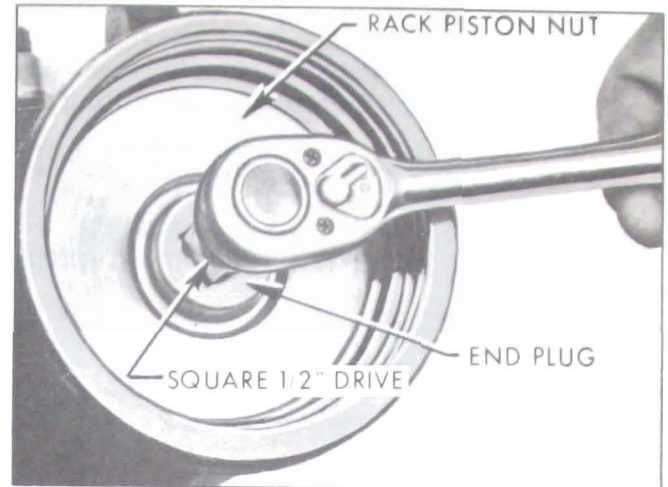

Figure 8-49—Removing Rack-Piston Nut End Plug
6. Remove rack-piston nut end plug with a 1/2 square drive. See Figure 8-49.